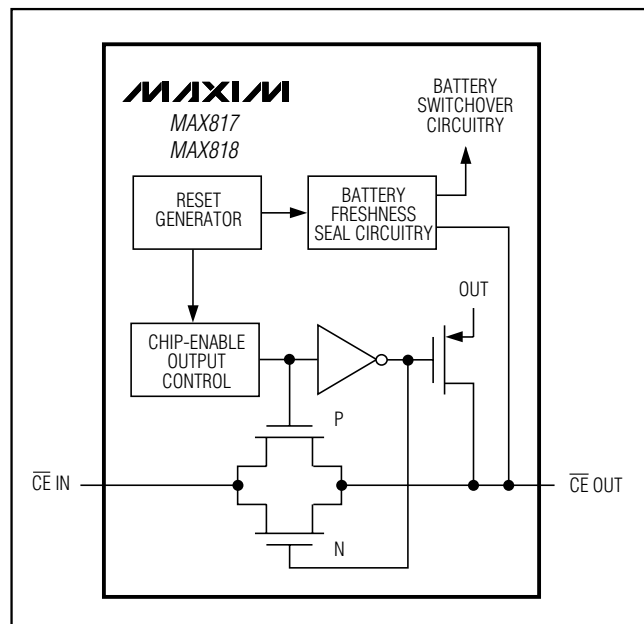

Figure 5. Chip-Enable Transmission Gate
Internal gating of the chip-enable (CE) signal prevents erroneous data from corrupting CMOS RAM in the event of an undervoltage condition. The MAX818 uses a series transmission gate from $\overline{\text{CE}}$ IN to $\overline{\text{CE}}$ OUT (Figure 5). During normal operation (reset not asserted), the CE transmission gate is enabled and passes all CE transitions. When reset is asserted, this path becomes disabled, preventing erroneous data from corrupting the CMOS RAM. The short CE propagation delay from $\overline{\text{CE}}$ IN to $\overline{\text{CE}}$ OUT enables the MAX818 to be used with most μPs . If $\overline{\text{CE}}$ IN is low when reset asserts, $\overline{\text{CE}}$ OUT remains low for typically $15\mu\text{s}$ to permit the current write cycle to complete.
When the CE transmission gate is enabled, the impedance of $\overline{\text{CE}}$ OUT is equivalent to a 40Ω resistor in series with the source driving $\overline{\text{CE}}$ IN. In the disabled mode, the transmission gate is off and an active pull-up connects $\overline{\text{CE}}$ OUT to OUT (Figure 5). This pull-up turns off when the transmission gate is enabled.